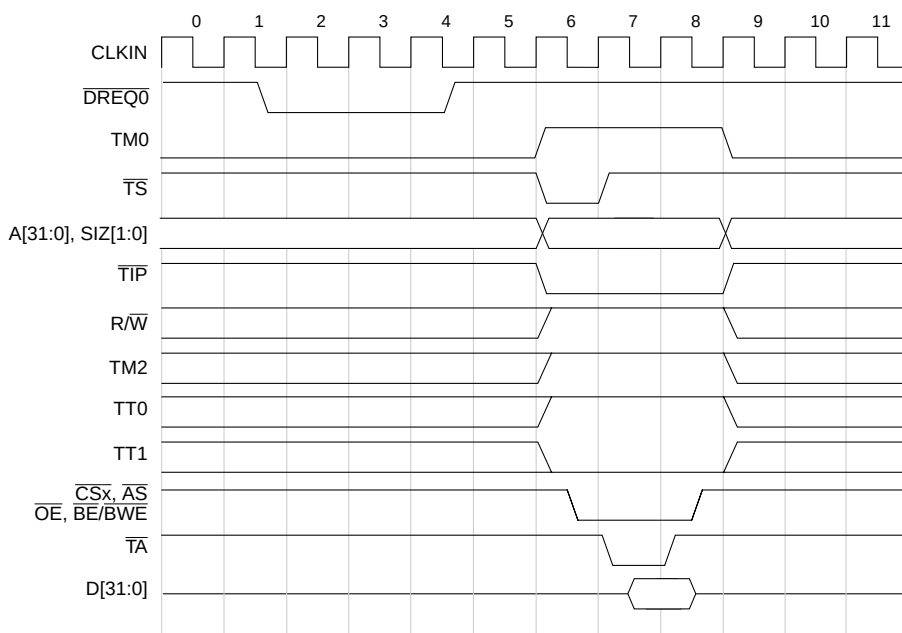

Figure 12-13. Single-Address DMA Transfer
- For single-address transfers,  $\overline{\text{DREQ}}$  must be negated before  $\overline{\text{TS}}$  is asserted for the transfer, as shown in Figure 12-13, clock cycle 4.
Figure 12-13 shows a single-address DMA transfer in which the peripheral is reading from memory. Note that TM2 is high, indicating a single-address transfer. Note that  $\overline{DREQ}$  is negated in clock 4, before the assertion of  $\overline{TS}$  in clock 6.